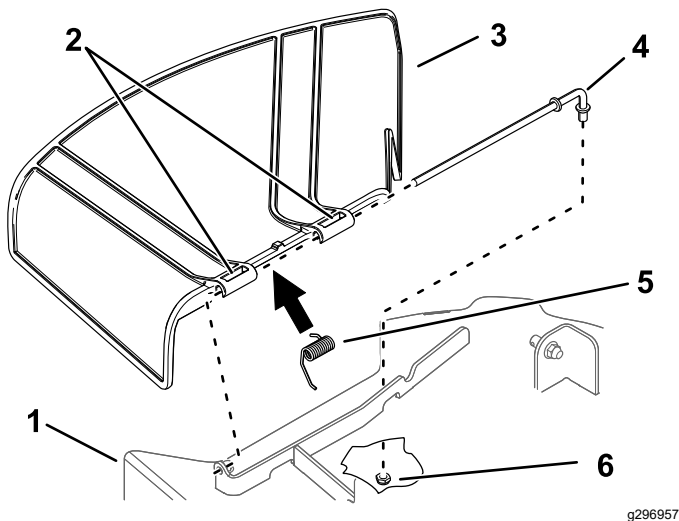

Figure 75
7. Slide the rod through the second grass-deflector bracket (Figure 75).
9. Secure the rear end of the rod into the mower with a nut (3/8 inch) as shown in Figure 75.
1. Remove the nut (3/8 inch) from the rod under the mower (Figure 75).
2. Slide the rod out of the short stand-off, spring, and grass deflector (Figure 75).
4. Replace the grass deflector (Figure 75).